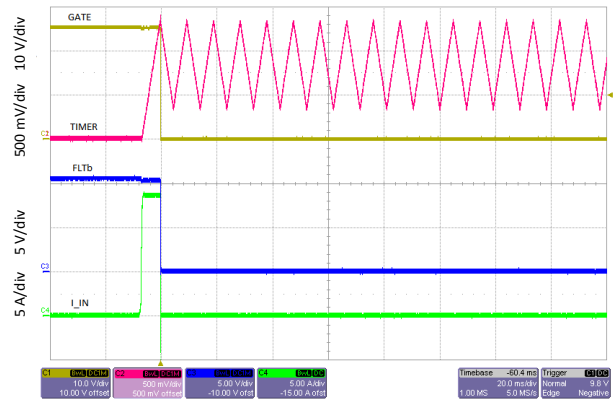

Figure 38. Latch After Overload Fault
- In latch mode (TPS24750), the TIMER pin continues to charge and discharge the attached capacitor periodically until device is disabled by UVLO, EN, or OV, as shown in Figure 38.